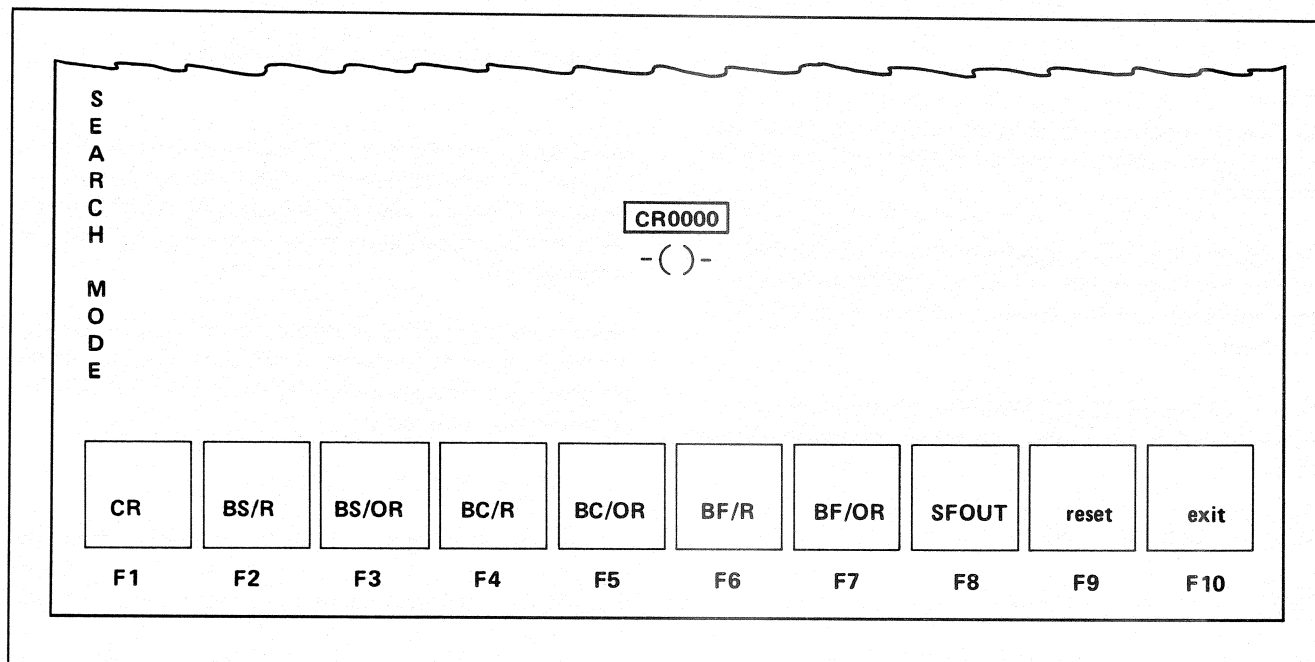

Figure 11-5. Coil Type Selection
**Step 1** – Press the F3, coil, function key to display the screen shown in Figure 11-5.